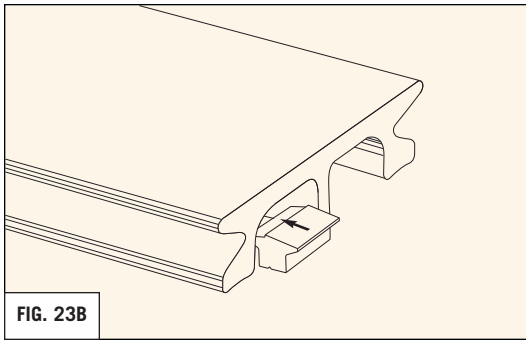

FIG. 23B
- Install perpendicular decking next. Toe screw each board in the middle with a single screw. To achieve the smallest possible gaps with the breaker board, the center leg on the ends of the perpendicular deck boards can be removed with a handsaw and chisel to slide over the Wing-clip. Remove a maximum of 1" of the center leg from the end of the deck board. (REFER TO FIG. 22 & 23A). As an alternative, the Wing-clip can be trimmed down to fit between the foot and the center leg of the board (this method does not apply to the Ultra clip). (REFER TO FIG. 23B)